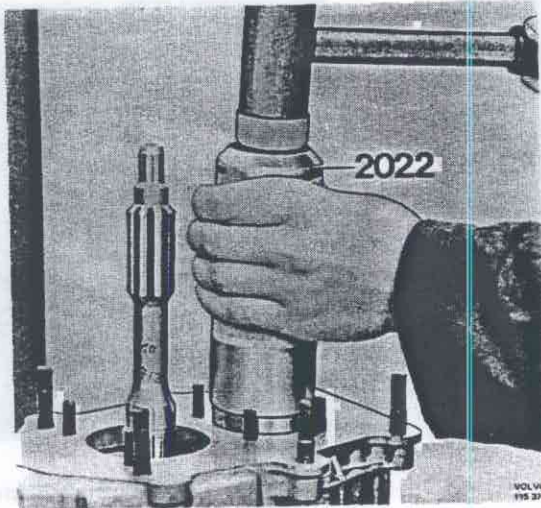

Fig. 43-115. Driving in outer race
18. Drive in the outer race for the countershaft front bearing with 2022, Fig. 43-115.